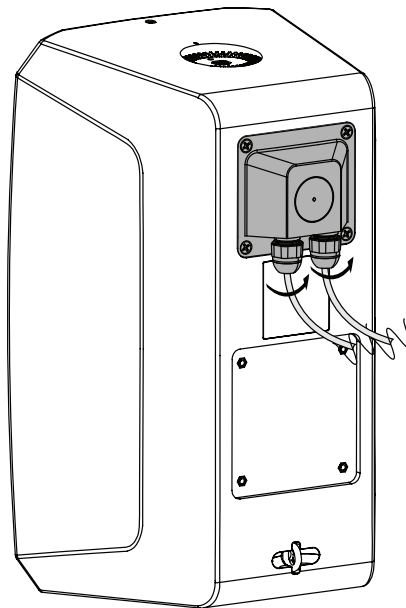

Figure 19
- Tighten the cabling nozzle cap(s) until snug.(Figure 19)